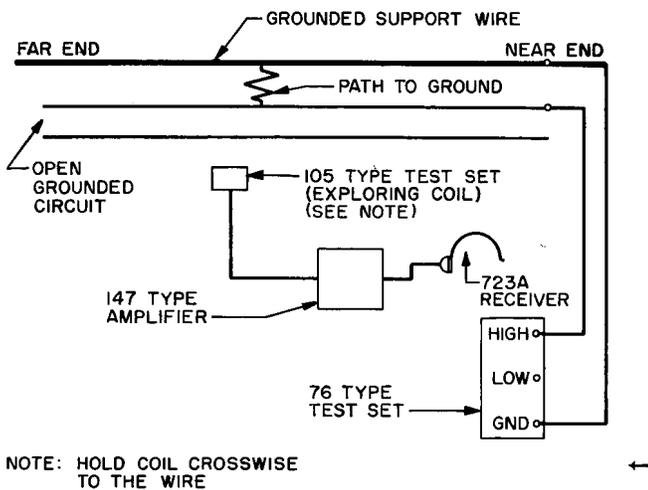

Fig. 4 - Locating Grounds
7.03 In order to determine the path to ground and locate the trouble, isolate the fault to a reasonably short section of wire, refer to Fig. 4 and proceed as follows: